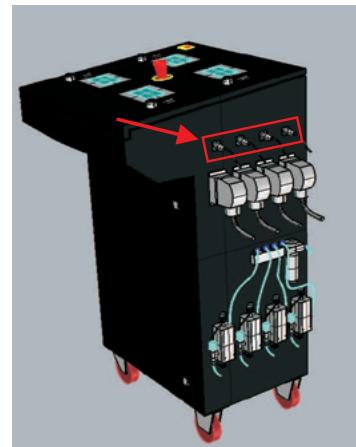

FIG. 1
4. Connect the D-TC device to the panel outlet (FIG. 1). The green light on the D-TC icon signals that the device has been connected (FIG. 5)